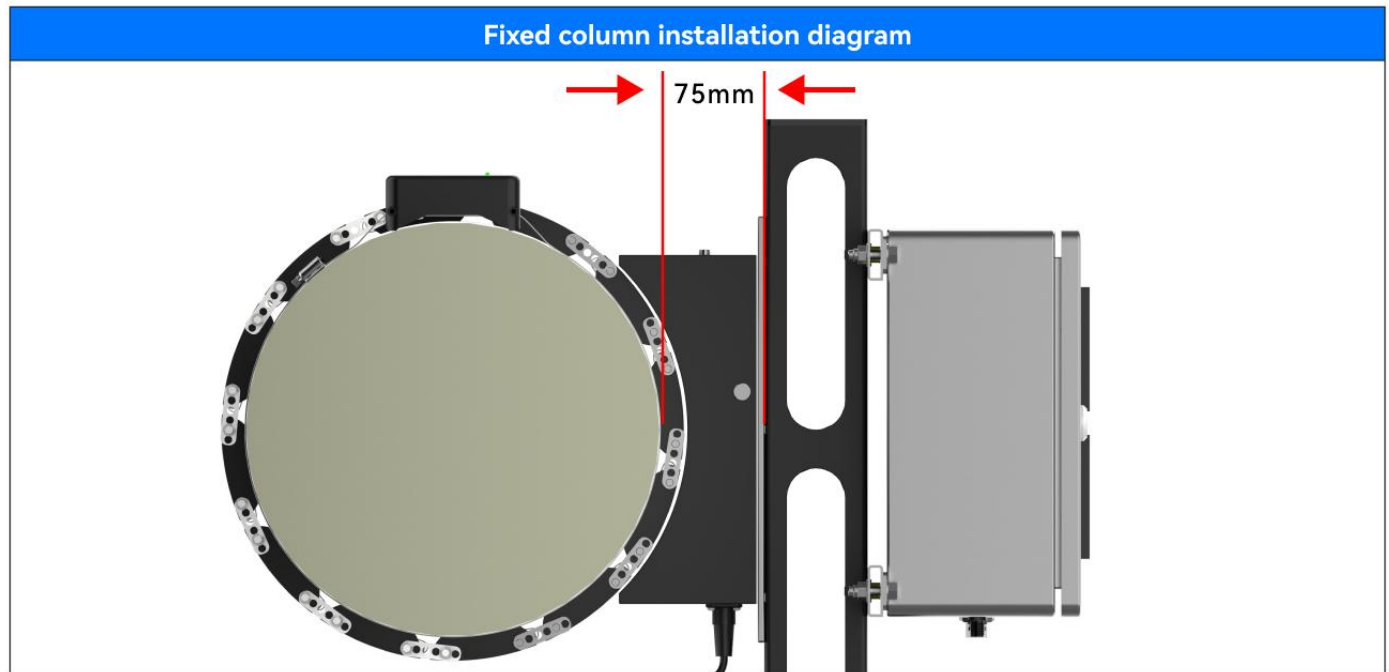

Figure 3.38
3. Adjust the distance from the surface of the mounting column to the outer surface of the shaft surface to 75mm, as shown in Figure 3.38. About 50mm can be moved in the machining groove where the column base is installed.